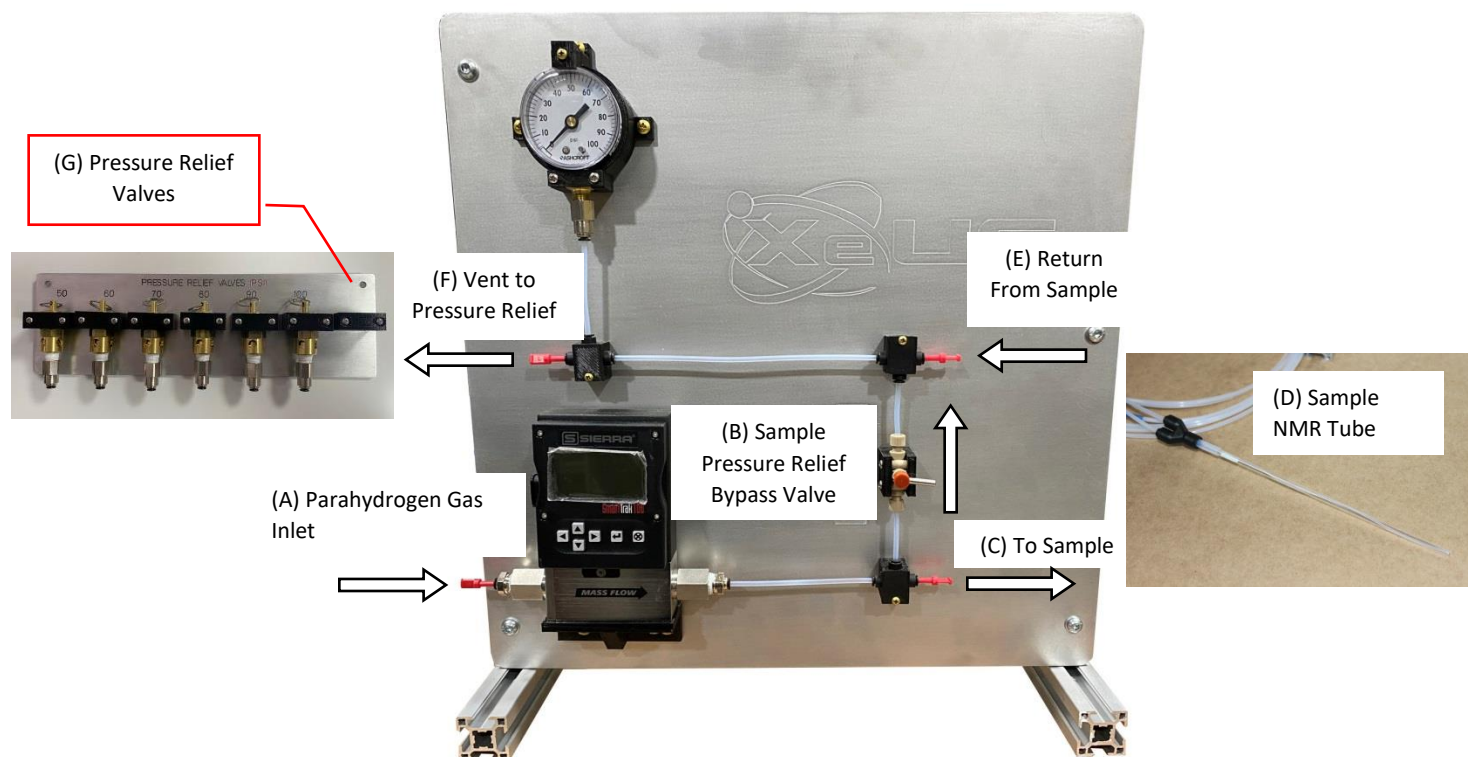

Figure 2: Bubbling System flow of gas through the system
- 2) Have the Bypass Valve in the ON position (Fig2, B) to prevent vigorous bubbling;